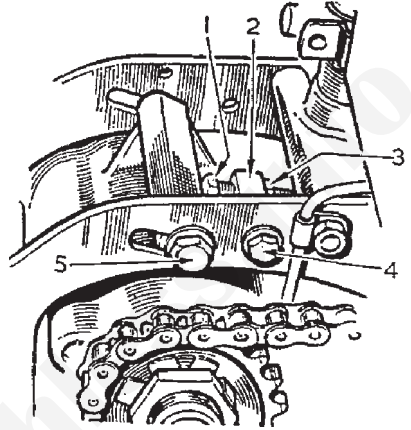

Fig. 15
The maximum free play measured from the centre of the chain run is $\frac{3}{8}$ in. Check the chain in several positions as it may have stretched unevenly. The method of adjusting the front chain is shown in Fig. 15, with the exception that two adjusters are used on the G80CS model. To adjust the chain slacken the bolt (5) and release the adjusting-bolt locknuts (3).